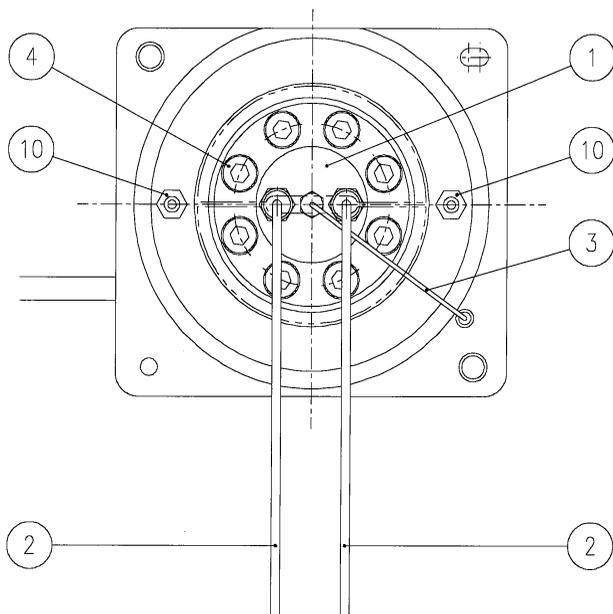

Figure 2. Top view looking at top section of Reaction Cell Top Plate
The Reaction Cell Top Plate is to be used with the top section pressure plate (1) secured into position over the reaction chamber using the eight M8 socket head screws (4). (See Figure 2.) Sealing between the top section pressure plate (1) and reaction chamber is achieved using a Perfluoroelastomer O-ring (5).